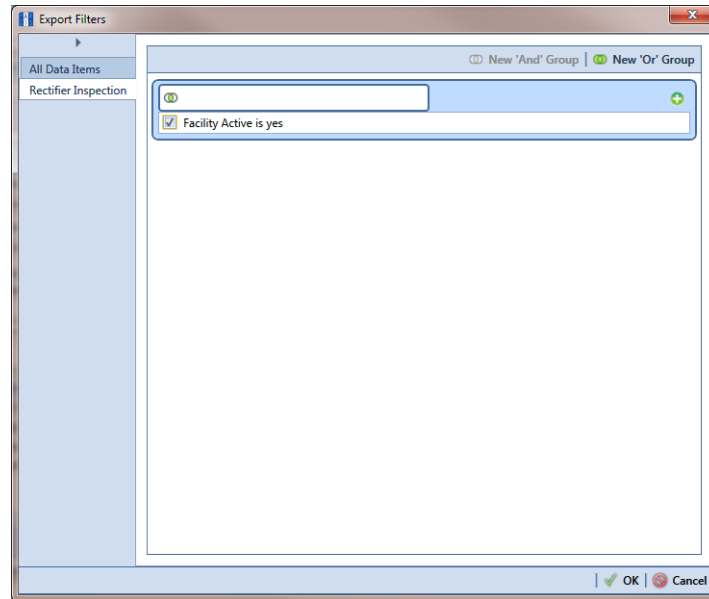

Figure 10-38. Export Filters
- Click the tab **All Data Items**. Click the check box for each filter you want to apply to *all* data items in the export file (Figure 10-38).